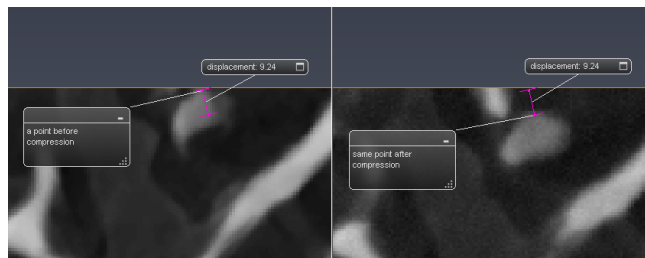

Figure 21.7: Displacement Measurement between the two ortho slices
- The maximum displacement should be around 10 (see Figure 21.7).